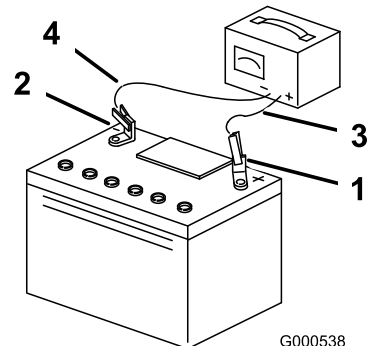

Figure 42
3. When the battery is fully charged, unplug the charger from the electrical outlet, then disconnect the charger leads from the battery posts (Figure 42).